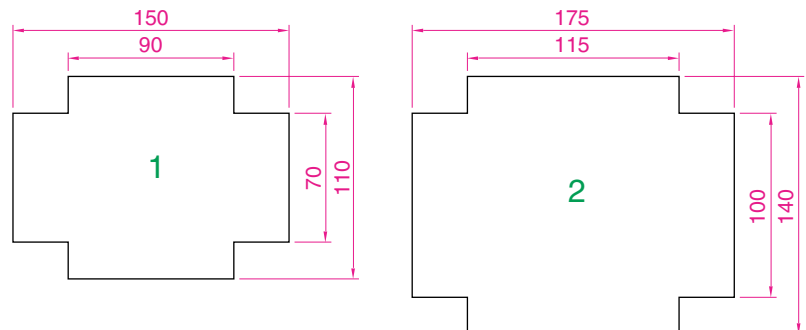

Fig. 5.55 Exercise 9
9. Construct the left-hand drawing of Fig. 5.55. Include the dimensions in your drawing. Then, using the **Stretch** tool, stretch the drawing, including its dimensions to the sizes as shown in the right-hand drawing. The dimensions are said to be **associative** (see Chapter 10).